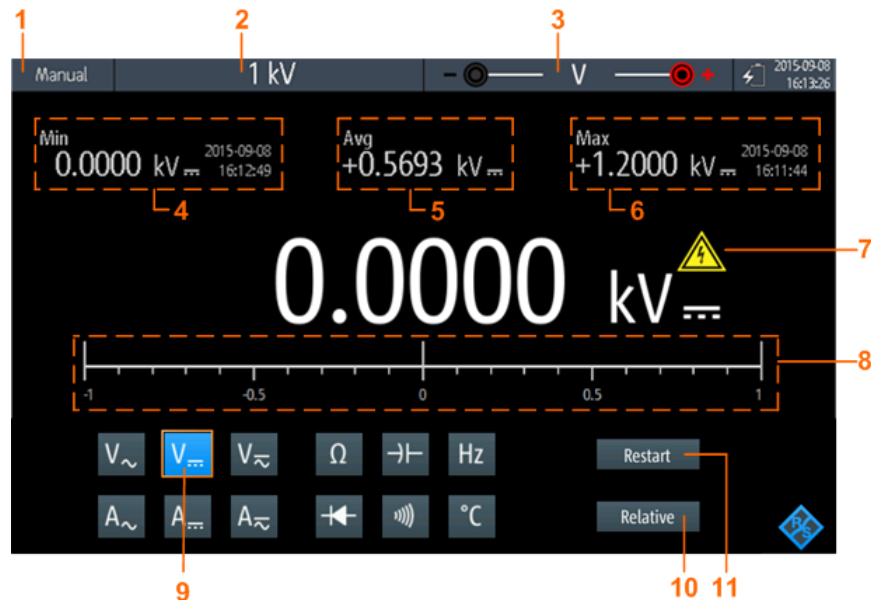

Figure 6-1: Display of the digital multimeter
3. Select the measurement type (no. 9 in Figure 6-1).